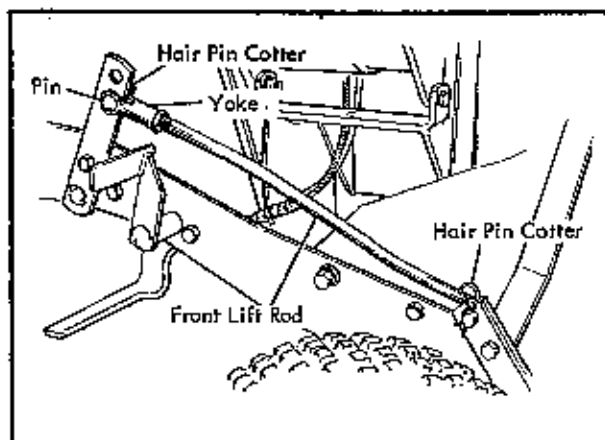

Fig. 9
2. The lift lever quadrant on the side of the tractor contains a series of holes and a pin. Place the pin in the foremost hole of the quadrant and secure in place with hair pin cotter. Release the lift lever and place in a forward position. Attach the yoke end of front lift rod to the lift lever arm using 2nd hole from top, on the right hand side of the tractor, with yoke pin and hair pin cotter. Insert lower end of lift rod into lift arm bracket of push bar and secure with hair pin cotter. The lower end of the front lift rod is to point away from the tractor. See figure 9. At this point when the lift lever is about 1/4" away from the pin in the quadrant, the rotor housing should be in contact with the ground. This will allow the plow to follow the contours of the surface being plowed but the quadrant pin will prevent the lift lever from latching in the forward position if the plow is driven over a curbing.